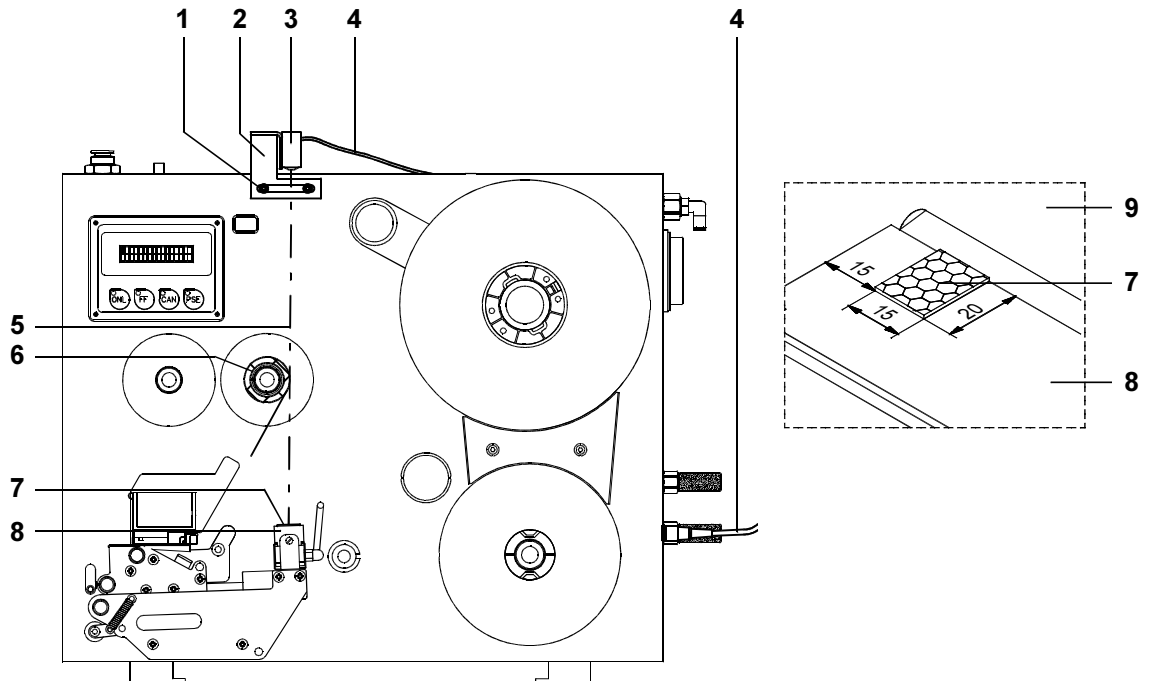

Fig. 14g Warning sensor ribbon end
2. Attach the sensor holder (2) with the warning sensor ribbon end (3) to the mounting plate using the screws (1).
3. Plug the cable (4). For that the printer has a 3-pin connector at the side of the frame.
4. The contents of delivery include a reflective foil (7).
Remove the covering foil from the glued surface and stick the reflective foil (7) onto the brake (8) below the ribbon hubs as shown in fig.14g. Make sure that the distance between the reflective foil and the mounting plate (9) is about 15 mm.